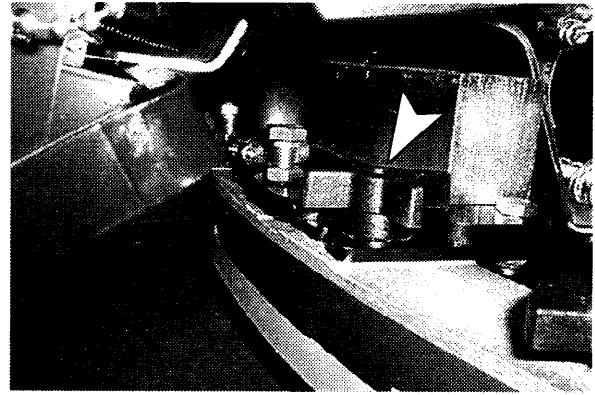

Figure 5
3. Loosen two thumb knobs on squeegee assembly. From underneath machine, slide squeegee assembly into slots of squeegee mount bracket. Tighten thumb knobs securely (Fig. 5).